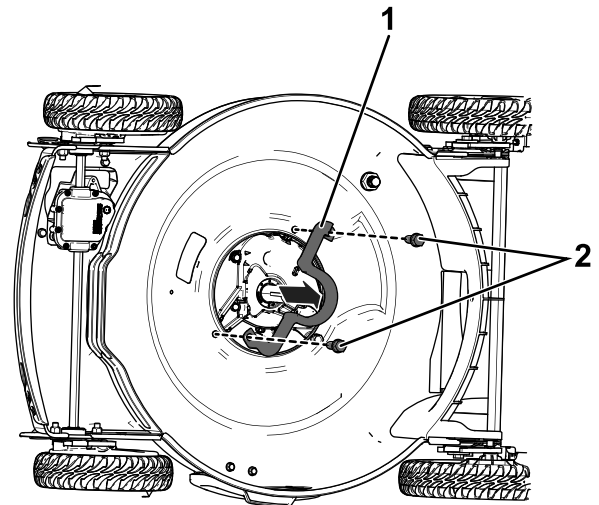

Figure 5
9. Remove and discard the metal belt guide and 2 corresponding bolts (Figure 5).